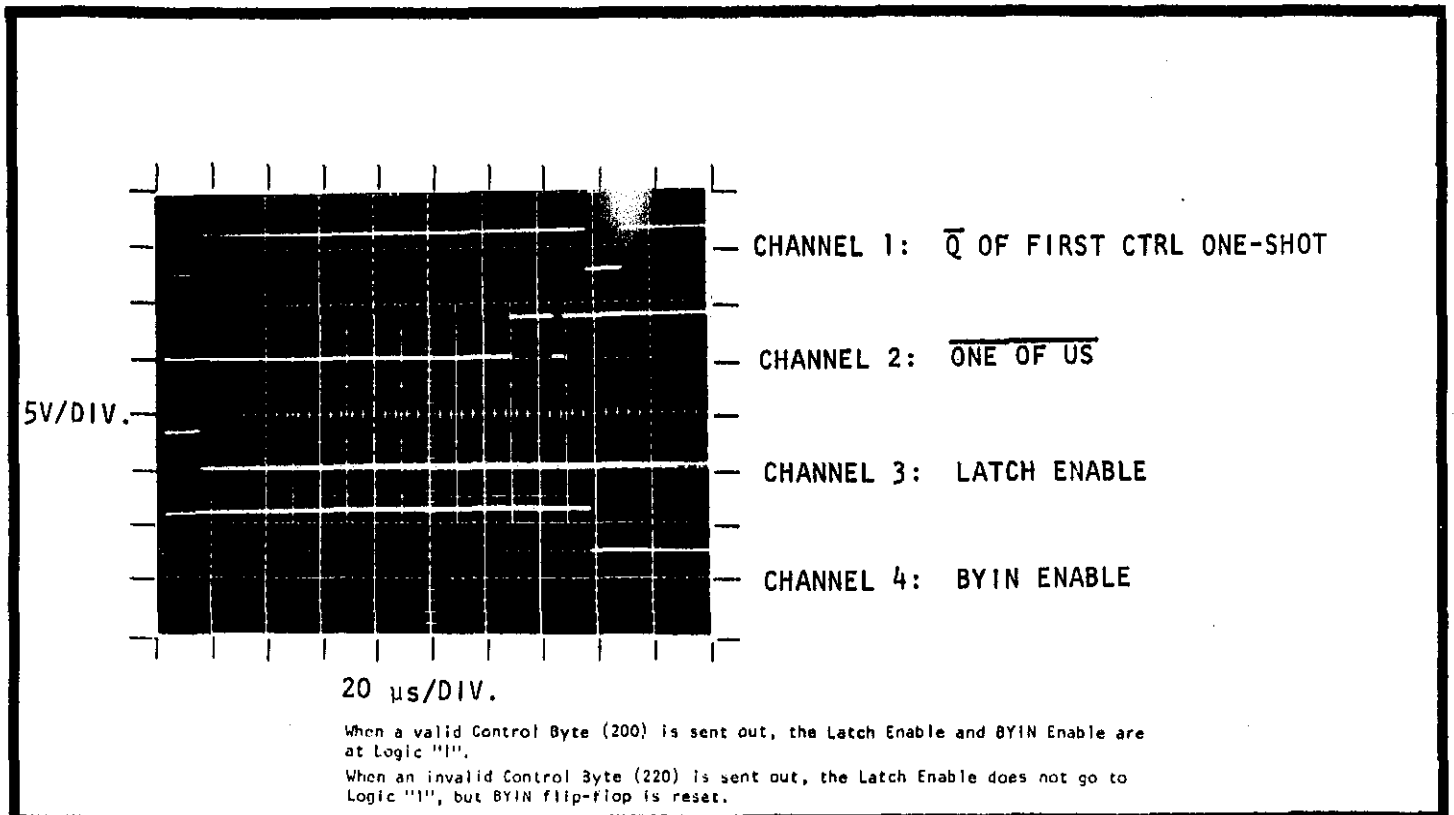

FIGURE 17. Trace For Test #11.
7. Verify the traces shown in Figure 17.